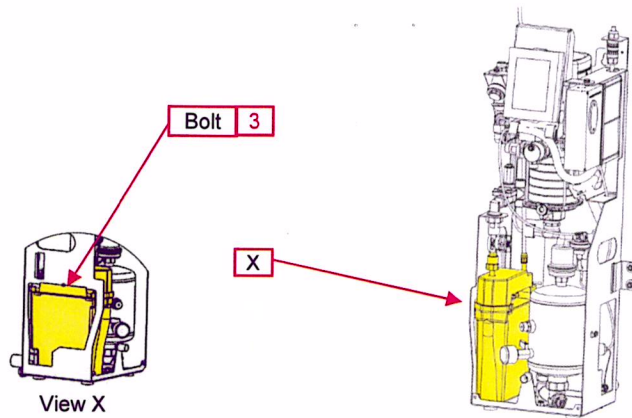
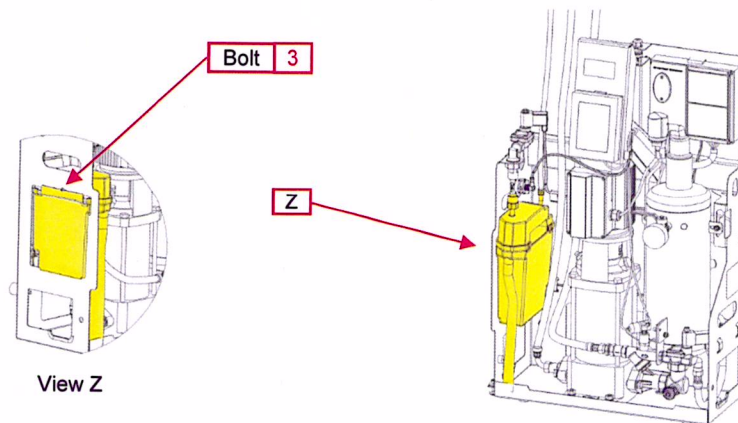

Figure 4: SpiroVent Superior S400
Figure 5: SpiroVent Superior S600
- 4) Loosen bolt [3]: see figure 4; S400 or figure 5; S600).
- 13) Fasten bolt [3]: see figure 4 (S400) or figure 5 (S600).